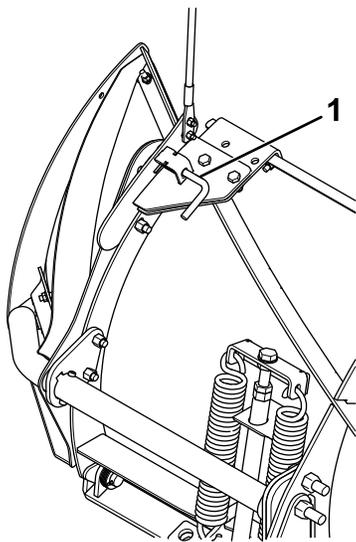

Figure 10
15. Rotate the plow wing forward and lock it in place with the spring pin (Figure 10).